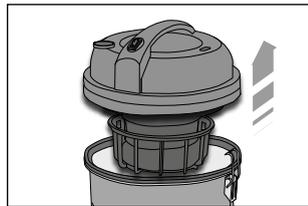

Fig. 8
- Operate the two lateral levers (G) (FIG. 7) and remove the cover (E) (FIG. 8).